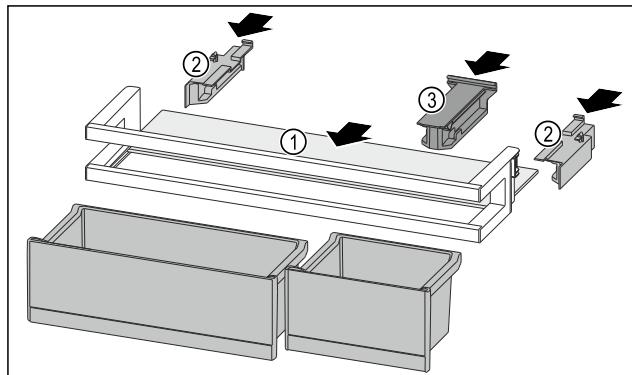

Fig. 95
- Push the shelf Fig. 95 (1) into the side recesses.
- Insert the side parts Fig. 95 (2).
- Insert the holding part Fig. 95 (3).